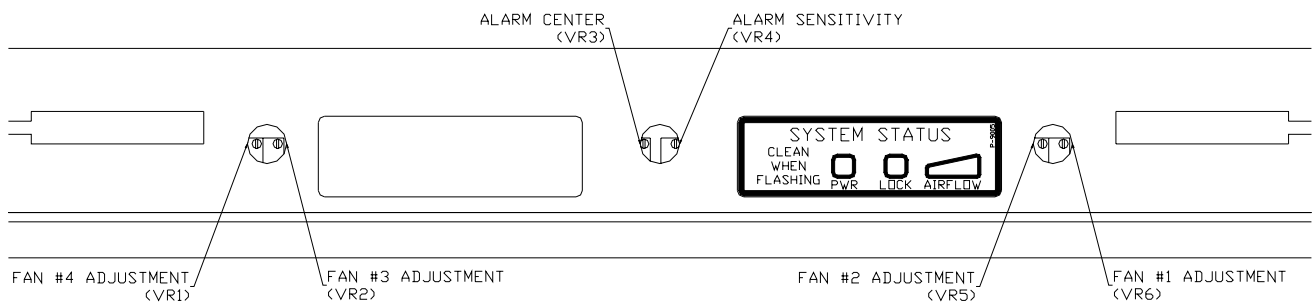

Figure 1
6. See figure 1. For VR (variable resistor) locations. Fans from right to left side are labeled 1 to 4, VR from right to left side are labeled 6, 5, 2 and 1. So if you have the CPA under fan 1, you are going to adjust VR6. Adjust VR6 so balance on CPA reads 0Volts @ +/-15Volts. Move the CPA from fan 1 to next fan, fan 2 and adjust VR5 to 0Volts @ +/-15Volts, repeat these set for all fans. All fans should be at 0Volts @ +/- 15Volts.